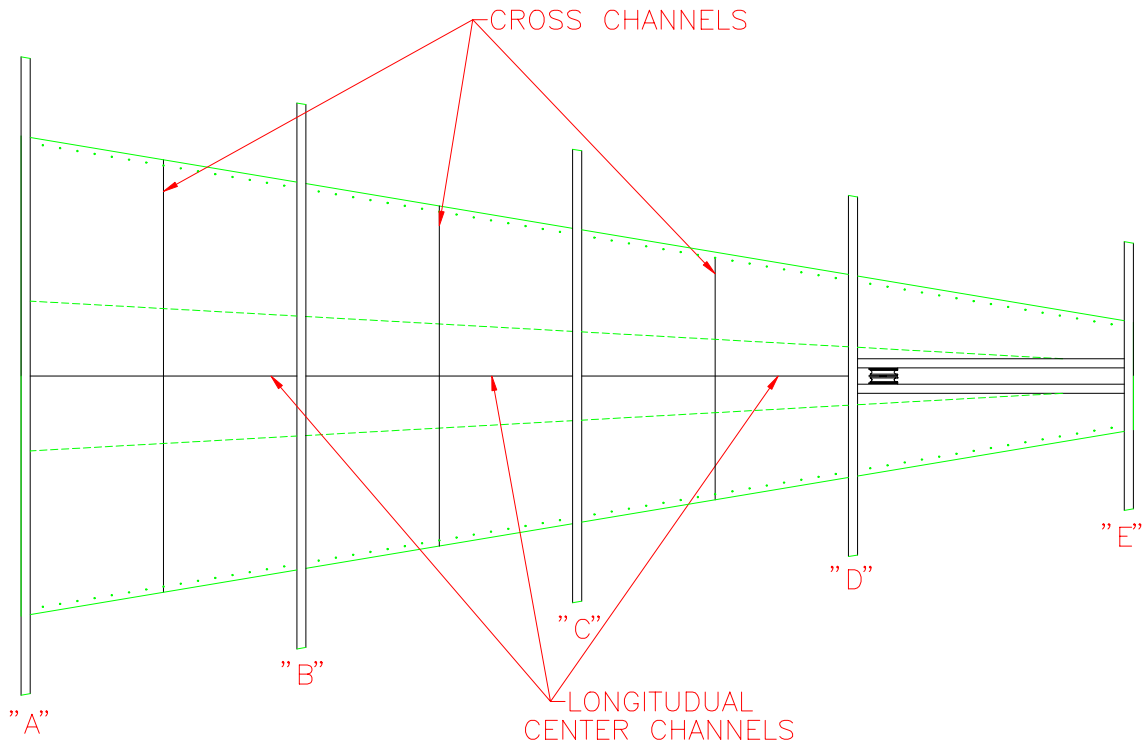

Figure 9.17.5
- 3) Mark the centerlines on the bottom Cone Skin for the longitudinal center channels and the cross channels. Figure 9.17.5.